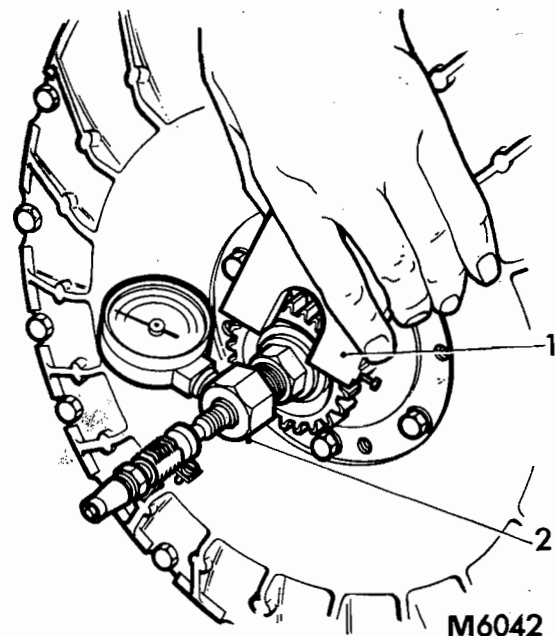

FIG. 3 APPLICATION OF SERVICE TOOL LC200
4. Insert tool LC200 as shown in Fig. 3 and tighten centre bolt until an air tight seal is formed. Pressurise the flywheel to 35 lbf/in² and observe reading over a period of 30 minutes. No pressure drop is permissible. A fall in pressure indicates a leak which must be traced and sealed. Exhaust system and remove tool LC200.